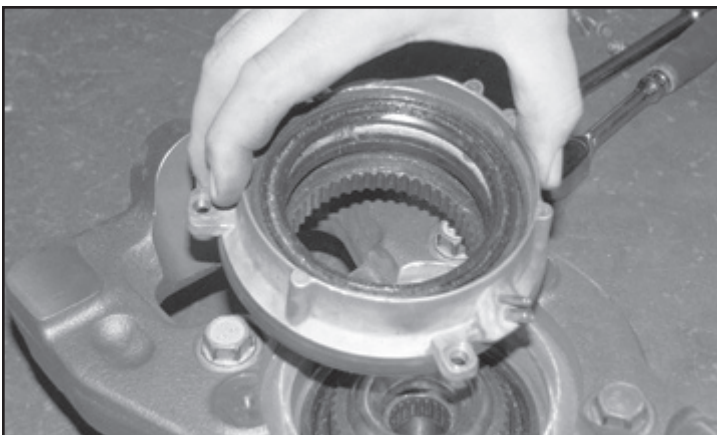

FIGURE 41 - STEP 46
46. Locate the factory 4WD actuator and install into the Fabtech spindle. Torque the factory 8mm bolts to 17 ft-lbs. **SEE FIGURE 41**